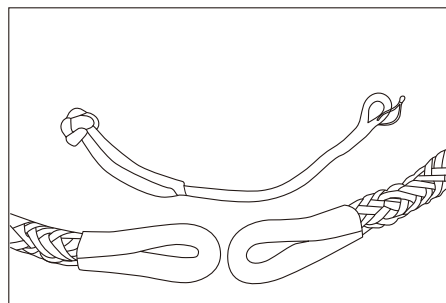
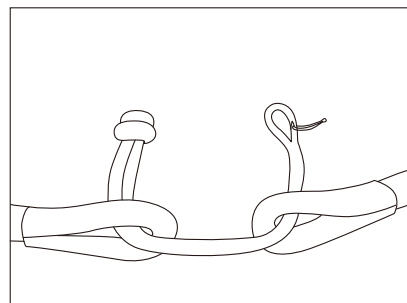
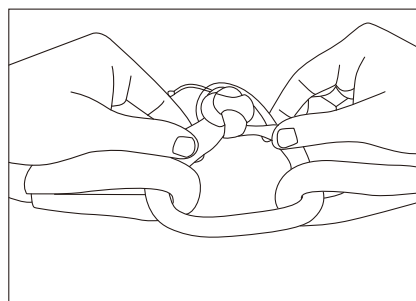

FIG 1
FIG 2
FIG 3
2. Lay out both rope eyes to be joined (FIG 1). Insert the QWIKrope® LINK Soft Shackle with the Knuckle (1) end going through the rope eye of the trailing rope. Insert the clinch eye end of the QWIKrope® LINK Soft Shackle through the rope eye of the lead rope (FIG 2).
3. Using the Clinch Eye Opening String (3) attached to the Clinch Eye (2) of the QWIKrope® LINK Soft Shackle pull on the Clinch Eye Opening String (3), this will allow the Clinch Eye (2) to expand large enough to accept the knuckle of the QWIKrope® LINK Soft Shackle.
4. Insert the Knuckle (1) end of the QWIKrope® LINK Soft Shackle through the Clinch Eye (2) and slide the extra rope material back towards the end of the Clinch Eye (2) (FIG 3).